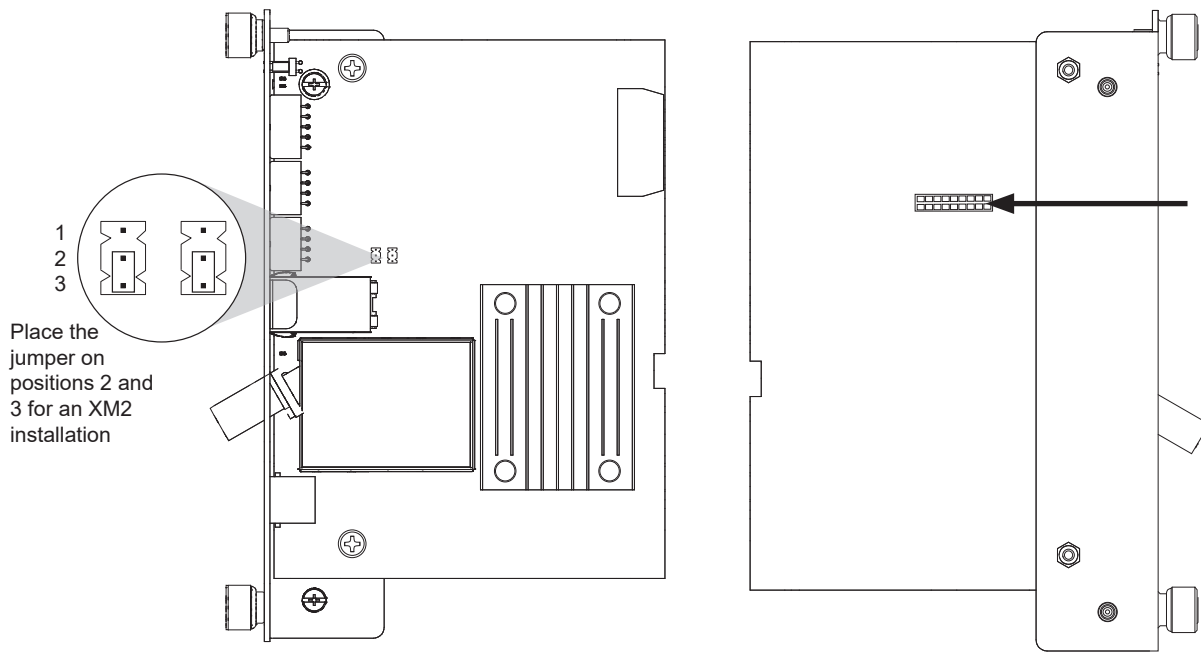

Fig. 7-2, Jumper Location and the 18-Pin Connector
1. Verify the Jumpers (J10 and J11) on the transponder are in the correct position for an XM2 installation (See Fig. 7-2).